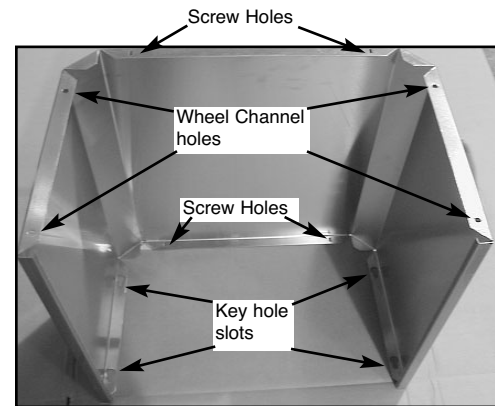

Fig. 1
1. Set 3 sided pedestal upside down. Set the base on the top of the cart assembly aligning the four wheel channel holes and 2 screw holes. Then set the 2 wheel channels on the base and attach them using the (4) bolts provided, from inside the cart upwards through wheel channels. (See Fig. 1 & 2)